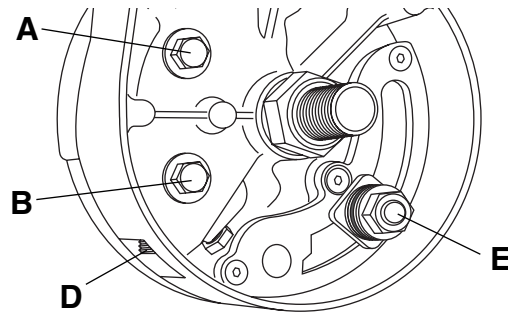

Figure 2a. Calibrating Blade at 0 degrees (90° to the table)
3. Loosen bolt heads "A" and "B" with 10 mm open-end wrench at least one full turn (Figure 2a).